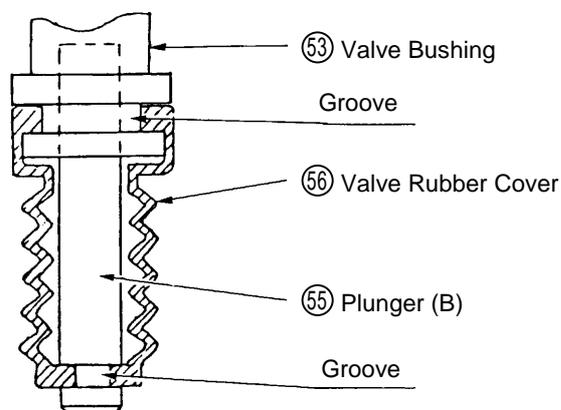

Fig. 14
- Thoroughly remove any tar or dirt which may be stuck on the nose portion of the Tail Cover ⑥③ and the inside sliding portion of the Push Lever ④⑦.
- Pay particular attention not to twist the Plunger Spring ⑤①, and break or damage the O-Rings.
- After mounting the Valve Rubber Cover (56) on Plunger (B) (55), reassemble Plunger (B) into the Valve Bushing (53). As illustrated in Fig. 14, ensure that the lips of the Valve Rubber Cover (56) are properly inserted into grooves provided between the Valve Bushing (53) and Plunger (B) (55). (Refer to Fig. 14)
- On completion of reassembly, ensure that when Plunger (B) (55) is pushed up with a finger and released, it smoothly returns to its original position.